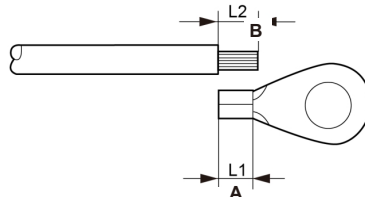

Figure 4.17 External Grounding Conductor Terminal
3. Strip the ground cable insulation to a suitable length. (see Figure 4.17)